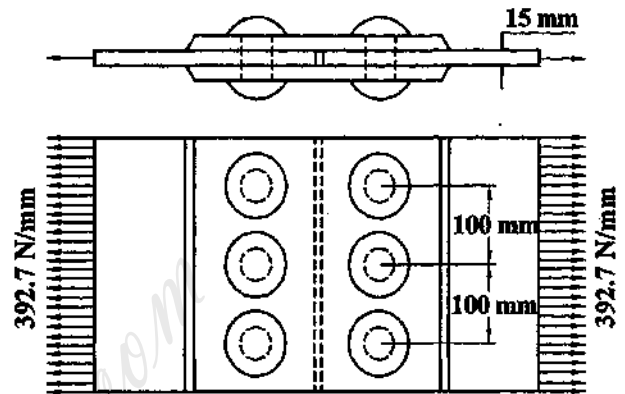

Figure 1
(1) A riveted butt joint shown in Figure 1 is subjected to uniformly distributed load of 392.7 N/mm. Plate thickness is 15 mm and the rivet spacing is 100 mm. Factor of safety is 2.5. Allowable shear stress for rivet is 100 MPa. Allowable tensile stress for the plate is 140 MPa. Allowable bearing stress is 300 MPa. Find the rivet diameter. Check for bearing failure and the tearing of the plate between the rivet holes. Suggest minimum thickness for the cover plates.